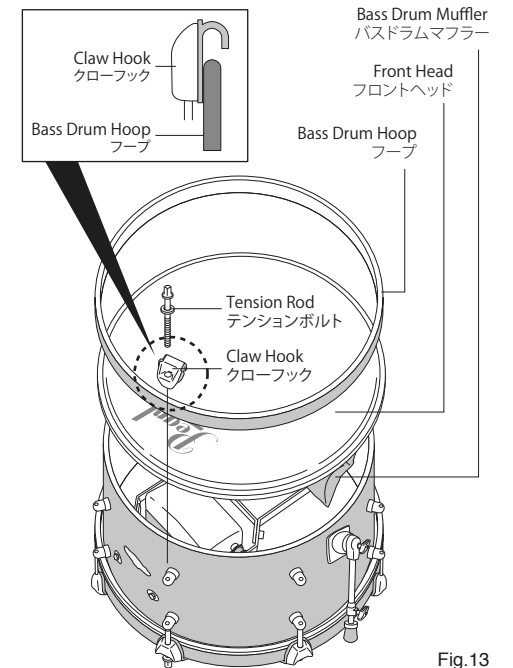

Fig.13
5. Install the front Bass Drum head by placing it onto the shell with the Pearl logo at the top of the drum as shown (Fig.13).
Care should be taken to ensure the logo is level. Place the Bass Drum Hoop with the flat-side down against the head. Hook the Tension Rod and Claw on the hoop and insert the Tension Rod into the lug and tension finger tight. Repeat the process to finish the installation (Fig.13).
- 3.と同様に、ヘッド、フープを順番に重ね、さらにクローフックをフープにひっかけた後、手でテンションボルトを8か所、仮組みします。ヘッドのPearlロゴの位置を調整したら、ドラムキーを使って、ヘッドがお好みのテンション (張り具合) になるまで、テンションボルトを締めてください (Fig.13)。